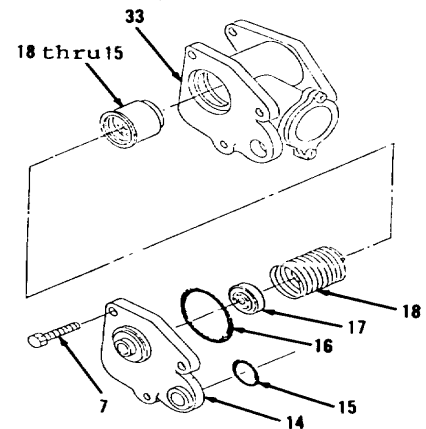
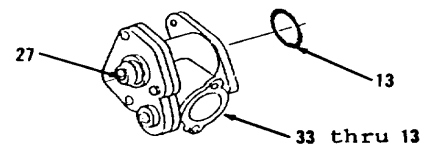

Figure 3-150.
Figure 3-151.
12. Install items 18 thru 15 as an assembly (Figure 3-150).
13. Install spring (18).
14. Install new preformed packings (16 and 15) in cover (14).
15. Position valve (17) in cover (14).
16. Position cover (14) on housing (33). Valve (17) must seat in spring (18).
17. Install two bolts (7).
18. Install new preformed packing (13, Figure 3-151). Lubricate outer diameter of new preformed packing (13) with clean diesel fuel.